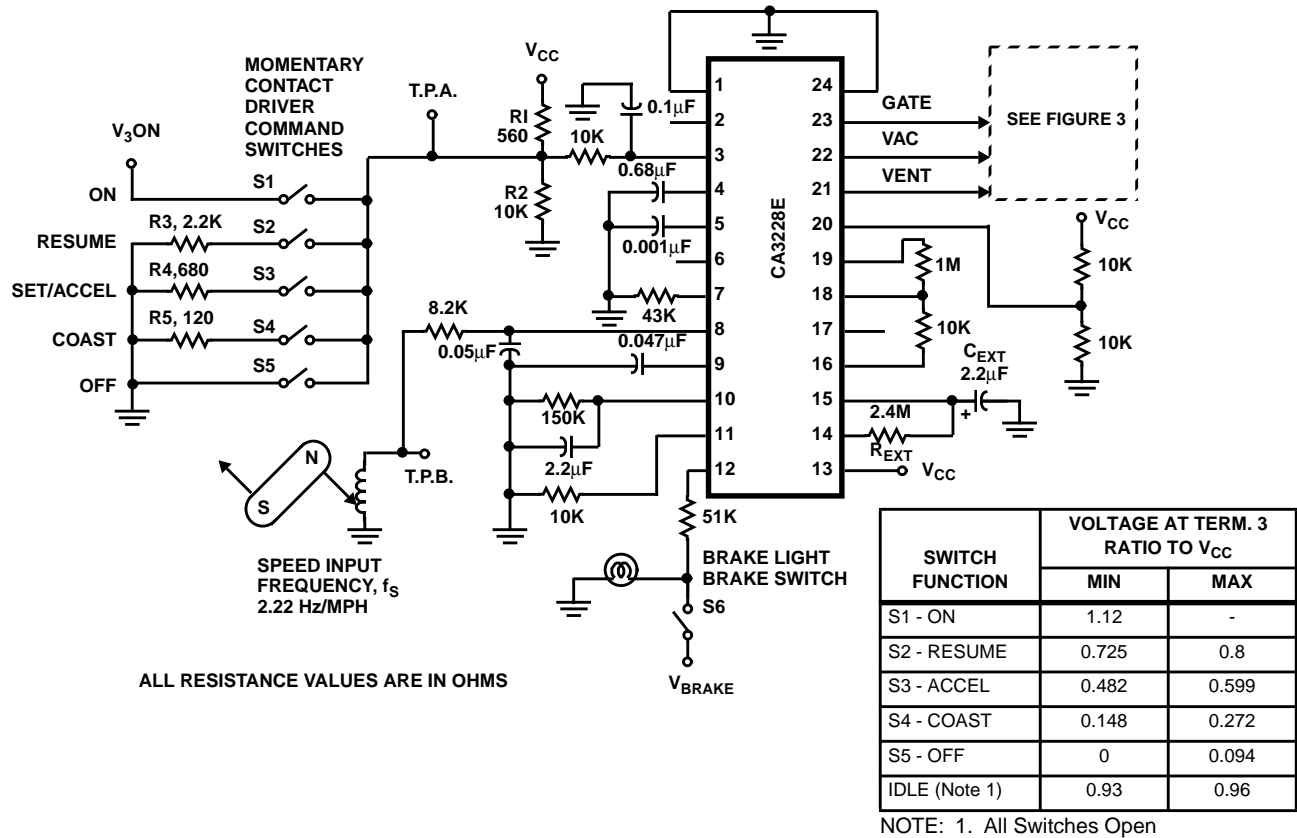

FIGURE 2. TYPICAL AUTOMOTIVE SPEED CONTROL APPLICATION
### Electrical Specifications $T_A = +25^\circ\text{C}$ , $V_{CC} = 8.20\text{V}$ , Unless Otherwise Specified (Refer to Figures 2 and 3)
**Electrical Specifications**  $T_A = +25^\circ\text{C}$ ,  $V_{CC} = 8.20\text{V}$ , Unless Otherwise Specified (Refer to Figures 2 and 3) **(Continued)**